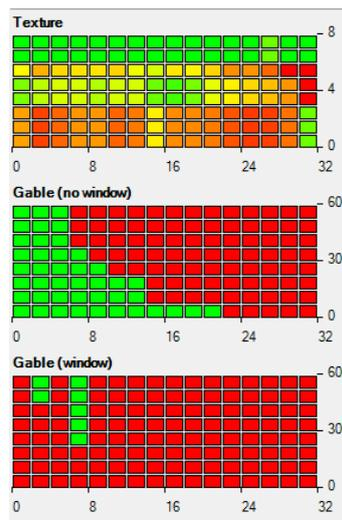

Figure 7.15: Texture quality indicators
Depending on the layout of your texture segment it might be easier or harder for the algorithm to map it on a building. For example if you have a lot of windows in the segment, it might be hard to map it on a wall without putting any window on the edge. How hard it is to map the texture also depends on the length of the wall segment that is being mapped of course. The texture quality indicators, see Figure 7.15 are a visual indication of how suitable your texture segment is to map
- The **Texture** indicator shows how easy it is to map the texture on a wall or roof of a given length. The horizontal axis indicates the length of the wall, between 0 and the maximum segment length. The vertical axis indicates the vertical areas in your segment. The quality indicator shown in Figure 7.15 is for the texture segment shown in 7.14. As the ground floor of that texture segment has more windows, you can see that vertically the bottom of the texture segment is harder to map (more orange or red squares), while the top part is easier to map. Horizontally you can see that a wall of 4 meters in length is harder to map than a wall of 16 meters.
- The **Gable (no window)** indicator shows you how suitable the texture segment is to map on a gable without any windows. The horizontal axis once again shows the length of the gable, between 0 and the maximum segment length. The vertical axis shows the slope of the gable in degrees. The quality indicator shown in Figure 7.15 is for the texture segment shown in 7.14. You can see that for gables longer than 16 meter it is very hard to map the
- The **Gable (window)** indicator shows you how suitable the texture segment is to map on a gable with a window. The horizontal axis once again shows the length of the gable, between 0 and the maximum segment length. The vertical axis shows the slope of the gable in degrees. The quality indicator shown in Figure 7.15 is for the texture segment shown in 7.14. You can see that there are only a few gables where a window can be mapped correctly. This is partly due to the design of the texture segment, it only has a few windows in it that have enough empty space around them to fit on a gable. For gables with a small slope angle it is also hard to map a window, since these will not be very tall.